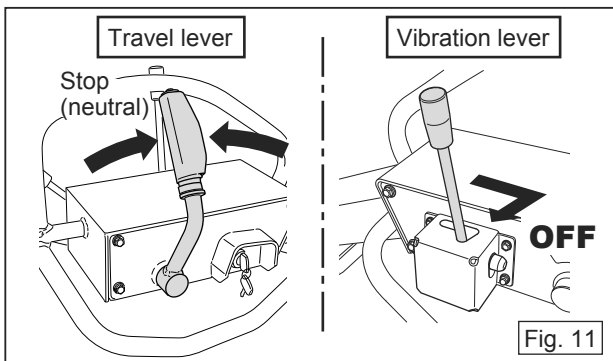

Fig. 11
2. Place the travel lever in "Neutral" and shift down the vibration lever to OFF. (Fig. 11)